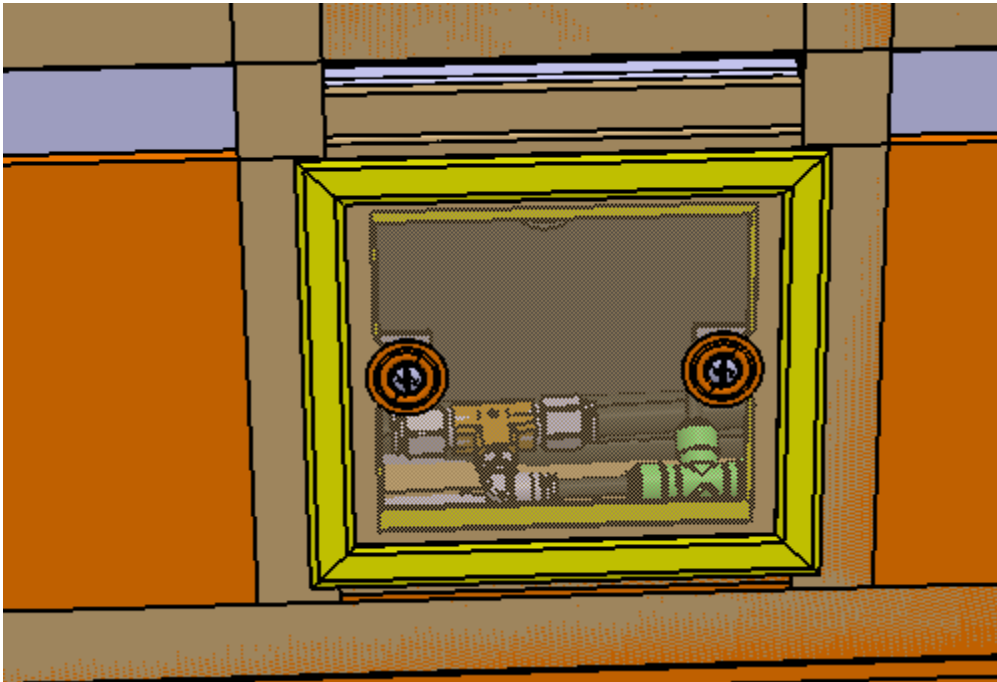

Figure-4
*Remove the maintenance lid behind the driver seat. (Figure-4)